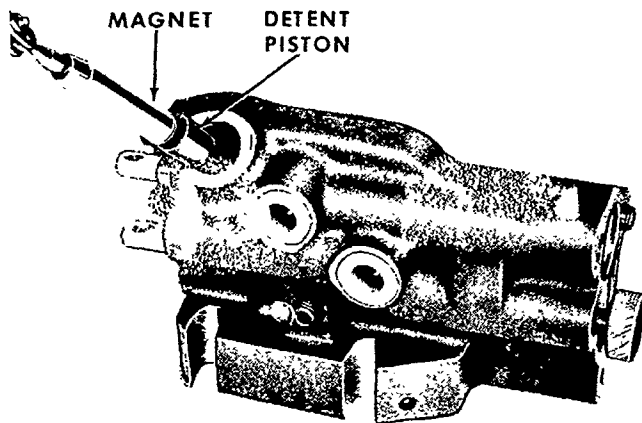

Figure 14
3. Remove the top detent assembly by removing the detent plug, O-ring, and spring. With a magnet, remove the piston as shown in Figure 14 (Double Spool Valve only).